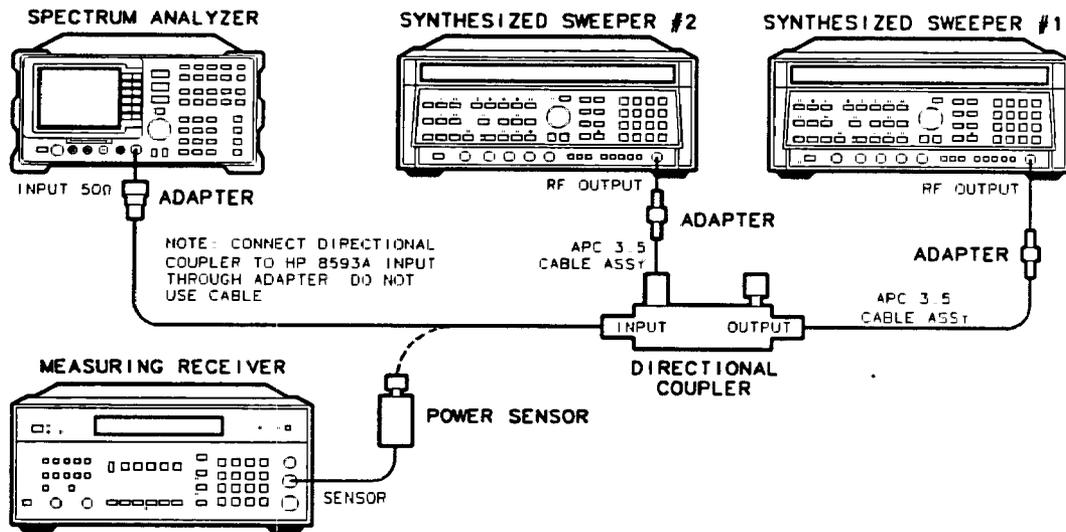

Figure 4-22. Gain Compression Test Setup
2. Connect the equipment as shown in Figure 4-22, with the output of the directional coupler connected to the power sensor.